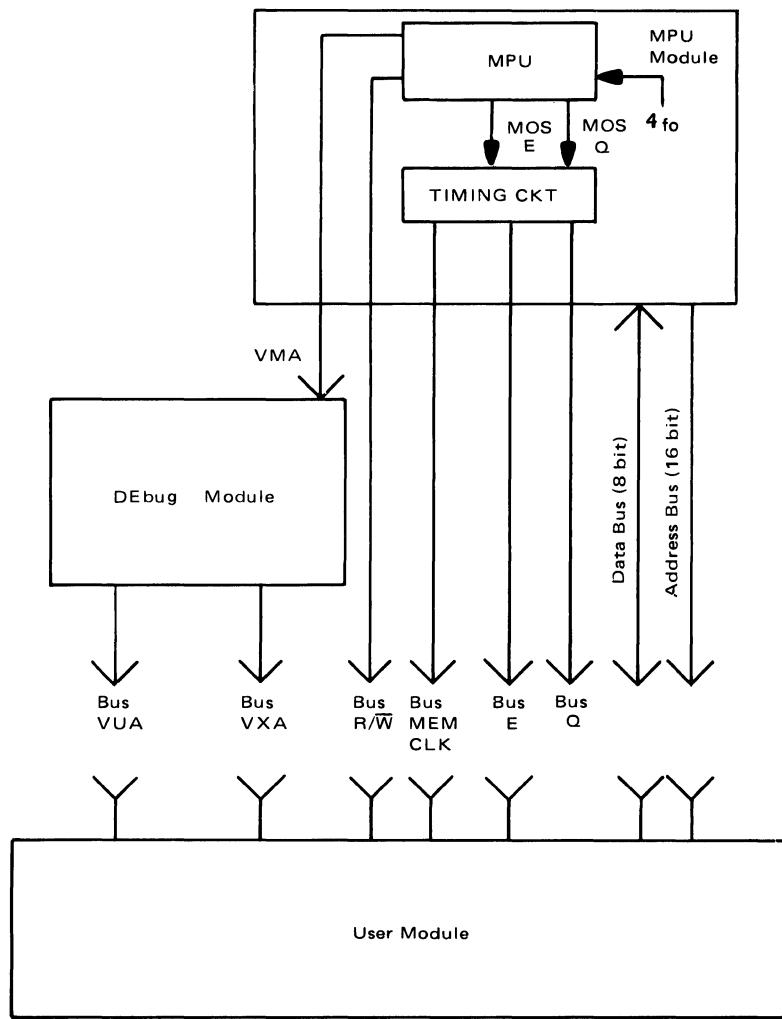
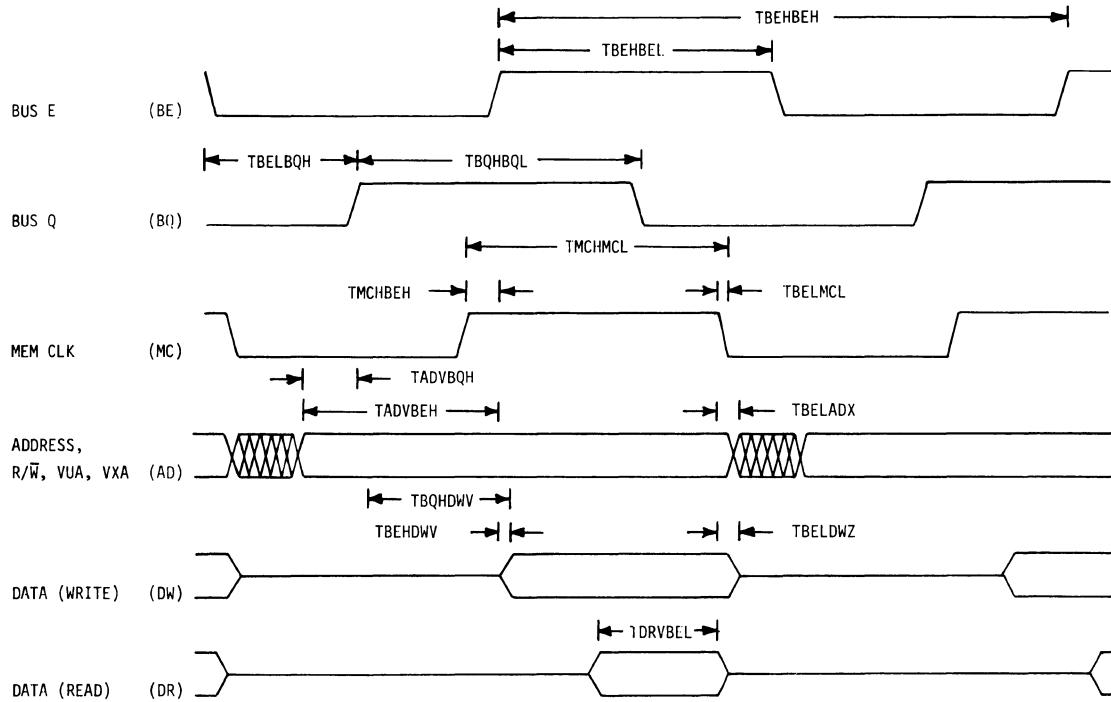

FIGURE 1. EXORciser Timing Signals Diagram (Bus View)
FIGURE 2. EXORciser Bus Specification Timing Diagram
The second portion of Appendix A is intended to provide the user with detailed timing data and general application notes. It is written from the perspective of the design engineer who wants to design a new peripheral and/or memory module that will interface with the EXORciser bus. Therefore, timing data is presented with respect to the bus (internal timing on specific modules is not discussed). Figure 1 presents a block diagram illustrating this point of view (using the bus as the reference). Figure 2 provides a general timing diagram for the most important signals on the bus. Frequent reference will be made to these two figures throughout the following discussion.
All abbreviations shown in Figure 2 and Table 5 (as well as in the examples) use upper case characters with no subscripts. The initial character is always the letter T followed by a six-character descriptor. This descriptor is used to identify the to/from measurement points. The first three letters of the descriptor identify the signal name and transition level for the measurement starting point, while the last three letters identify the signal name and transition level for the measurement ending point. The descriptor format is illustrated in Table 3, while Table 4 lists the measurement abbreviations.
The bus timing and control signals are generated by the MPU and DEbug Modules. These signals will be described with reference to Figures 1, 2, and Table 5.
The time relationship between the bus signals is shown in Figure 2, while the minimum, typical, and maximum time values for the signals are listed in Table 5 (for 1.0 MHz, 1.5 MHz, and 2.0 MHz operation). All of these time values are referenced to either the leading edge or trailing edge of BUS E (BE) or BUS Q (BQ). Time relationships not specified within this table can be readily calculated from the information provided. Examples 1 and 2 present two typical problems, along with the calculations required to determine the solution to each.
From Figure 2, we obtain the BUS E, BUS ADDRESS, and DATA (READ) signals.